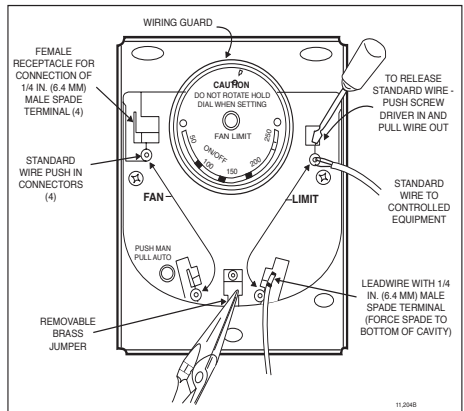

Fig. 8 - Location of wiring connections.
The brass jumper is the breakaway type. It must be removed when the limit is used in the low voltage circuit. To remove jumper, break with a needlenose pliers and remove completely. Once removed, it is not replaceable. See Fig. 8 for location.
Connections can be made to standard wire push-in terminals or female receptacles for 1/4 in. (6.4 mm) male flag connectors on both the fan and limit switches (Fig. 8).
3. Solid wire may be inserted directly into the terminal holes. If stranded wire is used, insert a small screwdriver into the slot next to the terminal. Push screwdriver in and hold while inserting wire into terminal (Fig. 8). Remove screwdriver. If stranded wire is solder-dipped, it can be pushed directly into terminal holes.
3. Push male flag connector directly into the female receptacle. Make sure that the flag is forced to the bottom of cavity and wire is in the channel (Fig. 8).